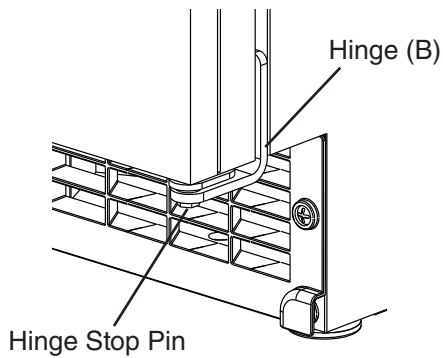

Fig. 28
9) Attach the door to hinge (A), then continue to maintain a hold on the door. Screw the hinge stop pin into hinge (B) until it is tight. See Fig. 28.